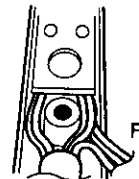

Fig.5
- Route the lead wires around both sides of the boss, so that the wires are not pinched between the boss and the board. Verify that the D-sleeve is under the board. See Figure 5.